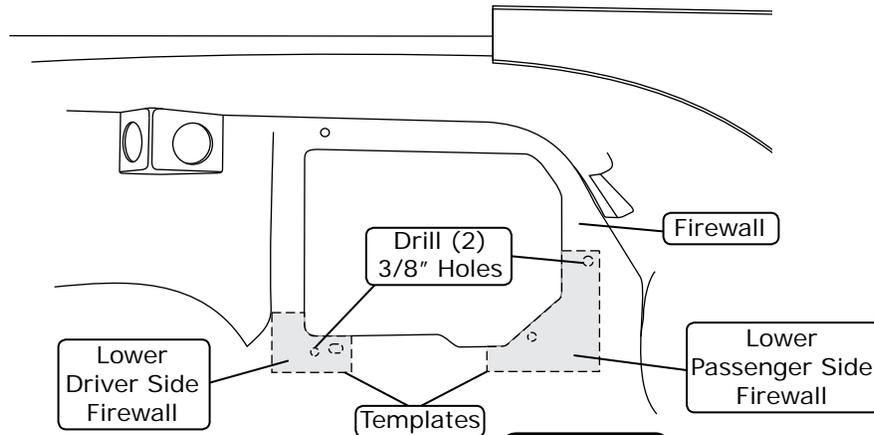

Figure 11
1. Cut out the templates provided on Page 30. Working in the passenger compartment, place the templates on the firewall as shown in Figure 11, below.
2. Once templates are aligned correctly and taped into place, mark the mounting hole locations on the firewall. Once the holes are marked in the correct location, drill (2) 3/8" holes in the firewall for the firewall cover (See Figure 11, below).